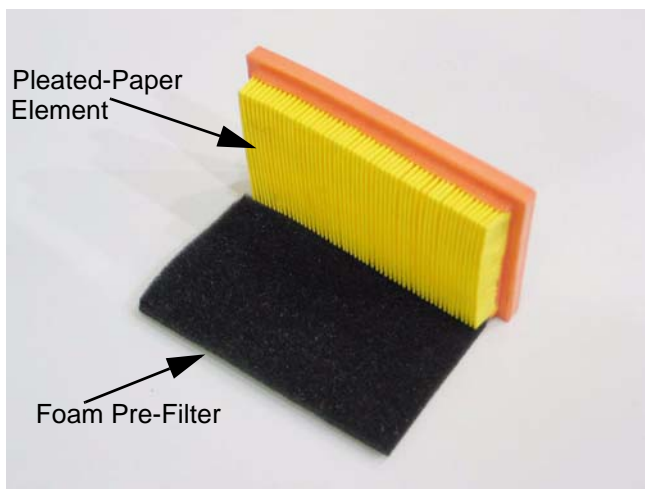

Figure 2.2
2. The air filters used on the MTD engine are designed to prevent particles larger than 3-5 micron from passing into the engine. See Figure 2.2.